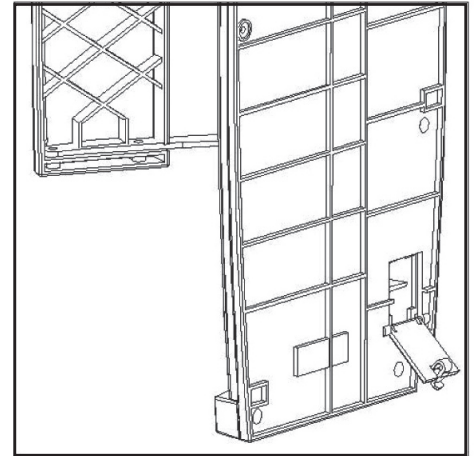

Figure 7
- You should upside the machine when you clean the waste bin shown as in figure 7.